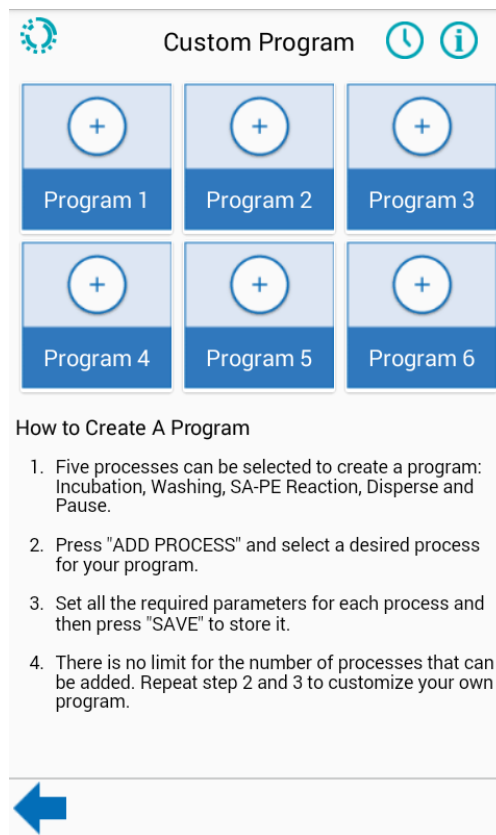

Fig. 20. Custom Program 1 to 6
- Step 2. Fig. 20: Select one program to create/edit/run from Program 1 to 6 selection.